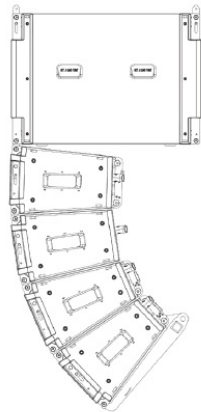

Fig. 9. SM10-SM10-SM20-SM20
- SM10, SM10, SM20, SM20 (see Figure 9)